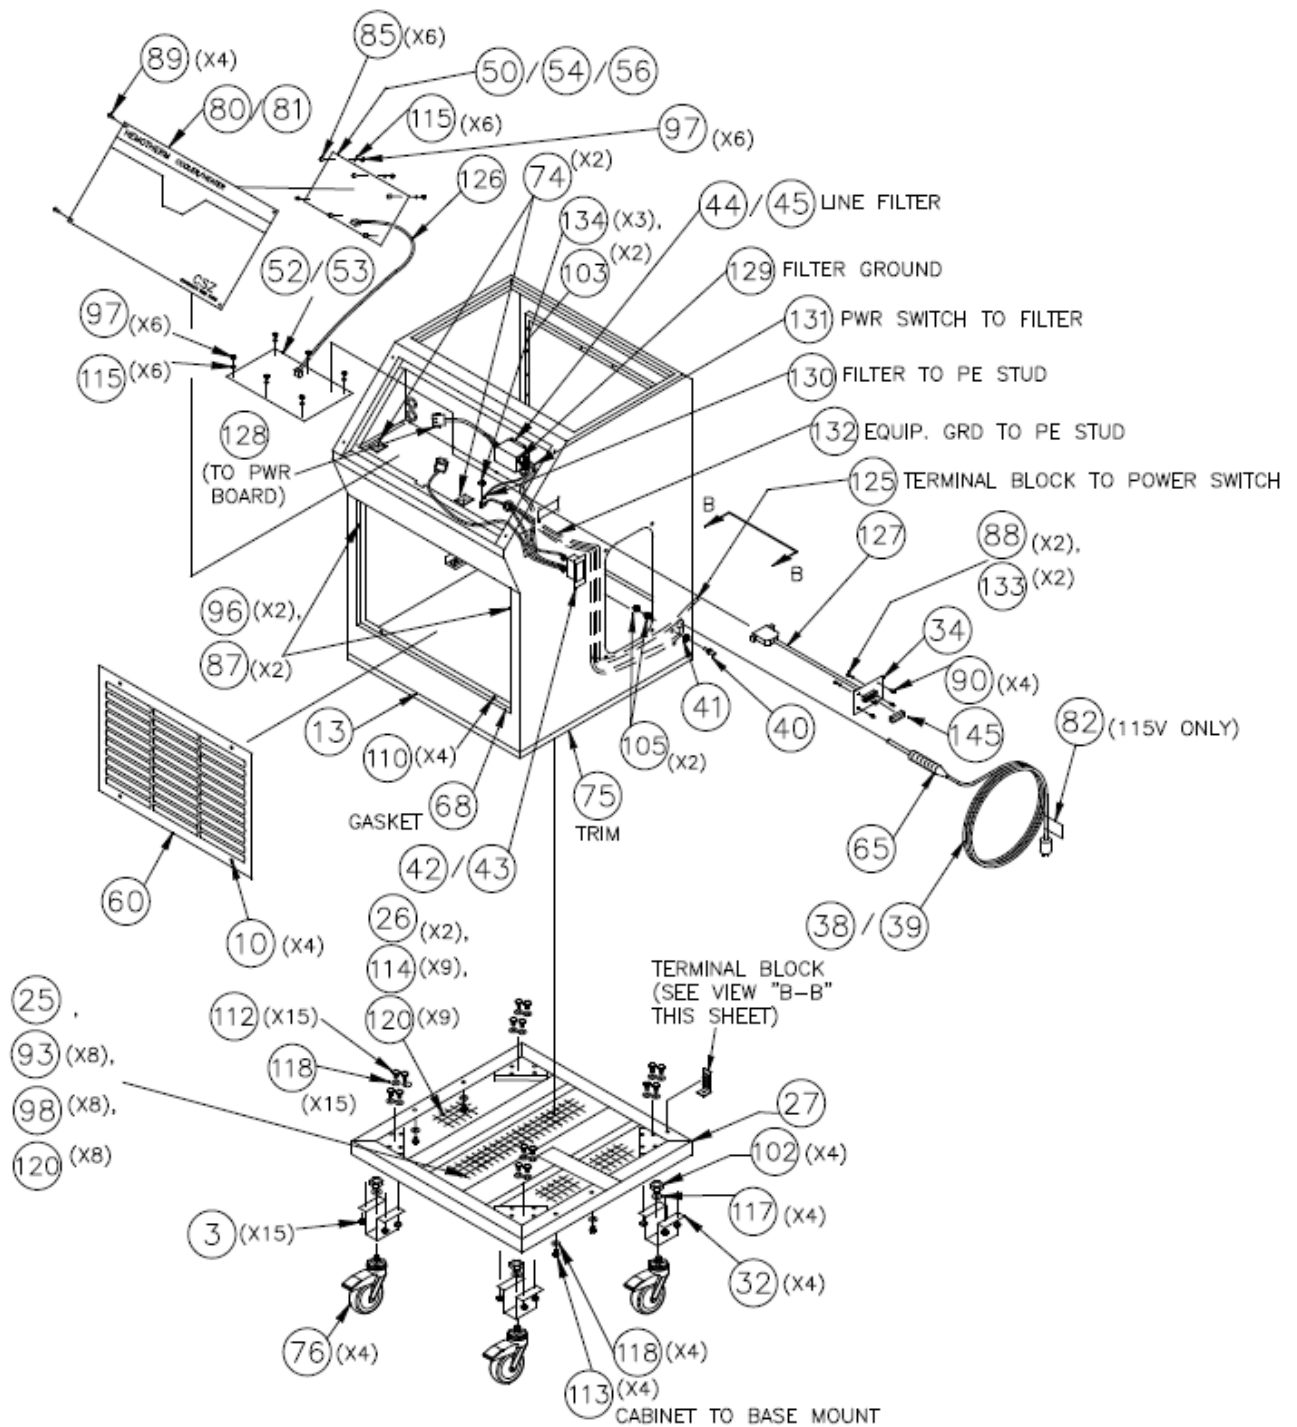

FIGURE 4-1, FRONT ASSEMBLIES AND PARTS
4.5 PARTS LIST FOR HEMOTHERM (FIGURE 4-1 THROUGH 4-6)